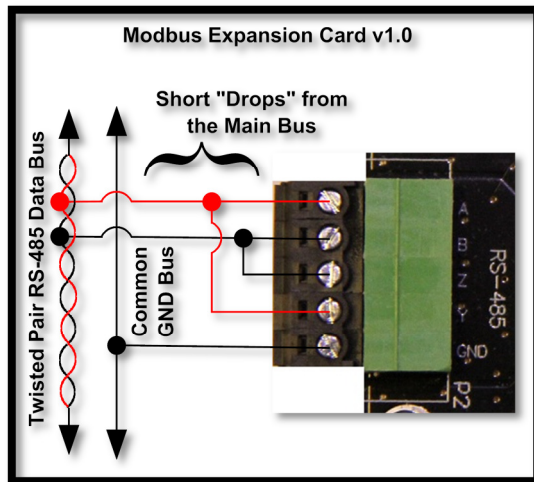

Figure 13
- For Modbus Card v1.0, wire up the A, B, Y, and Z communication terminals to the RS-485 Bus according to Figure 13. The jumper wires from A-to-Y and from B-to-Z are required for half-duplex operation. Full-duplex communication may be possible but is not officially supported by this card or by the RS-485 standard.
- For Modbus Card v1.0, there is only one ground pin on the pluggable header (the rightmost pin). See Figure 13.